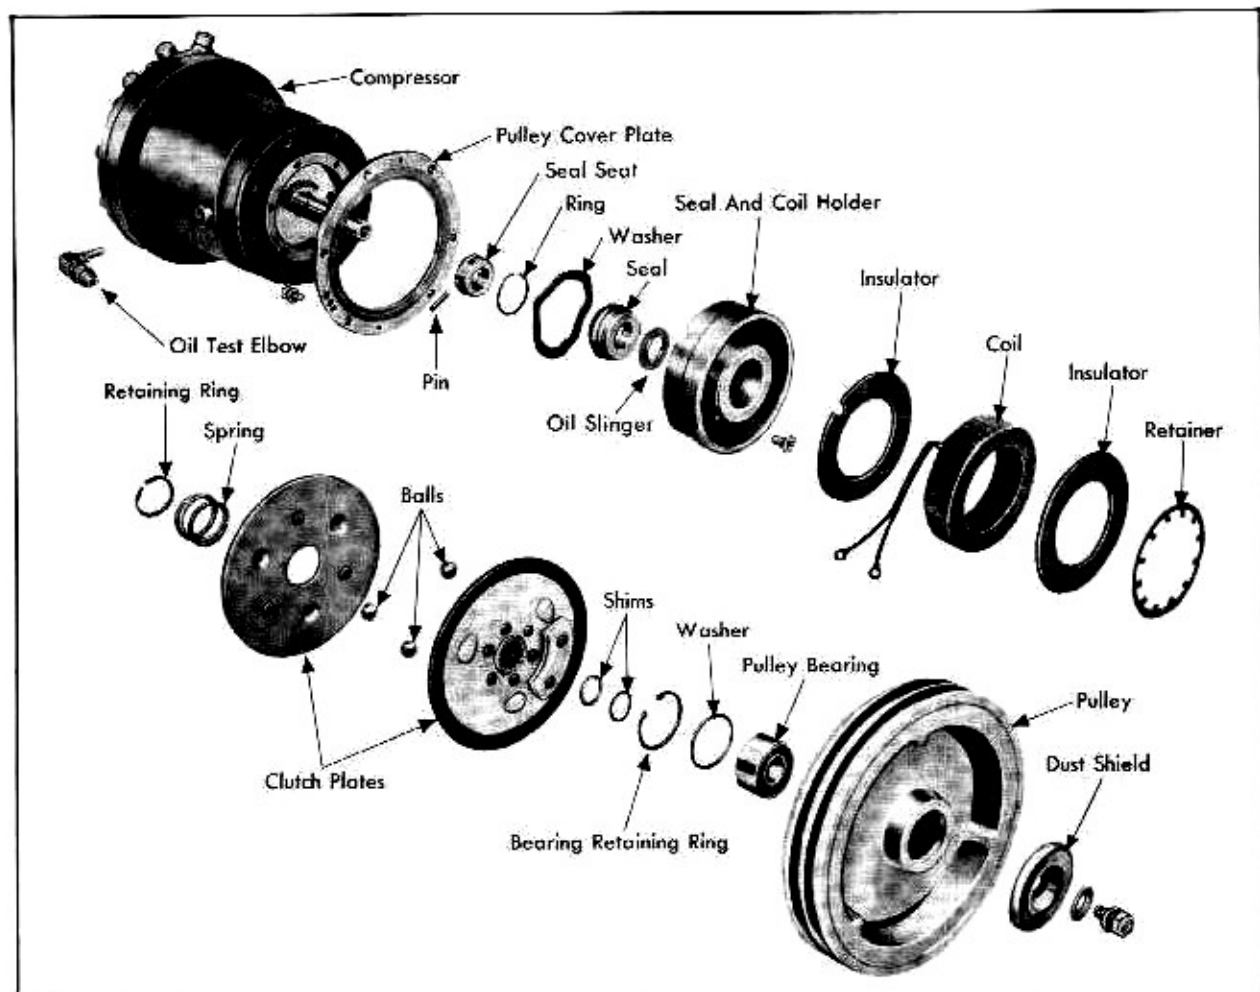

Fig. 16-A-7 Clutch Assembly Disassembled
3. Remove bearing from pulley housing with fingers or by tapping lightly with block of wood at outer race. Bearing is installed with only a snug fit. Fig. 16-A-9.
(13) Removal and Installation of Clutch Actuating Coil